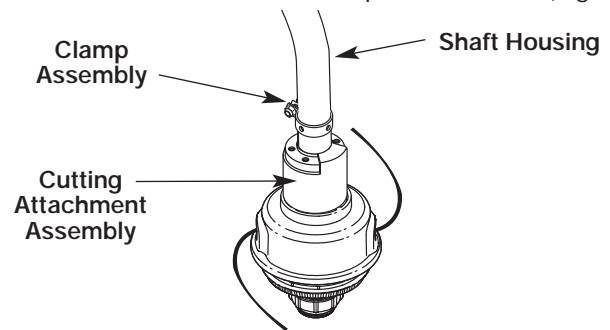

Fig. 3
1. Place the cutting attachment shield onto the shaft housing above the clamp assembly (Fig. 3).